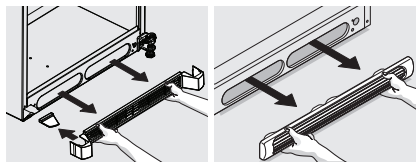

Figure 1
- Remove the toe grille (Figure 1).